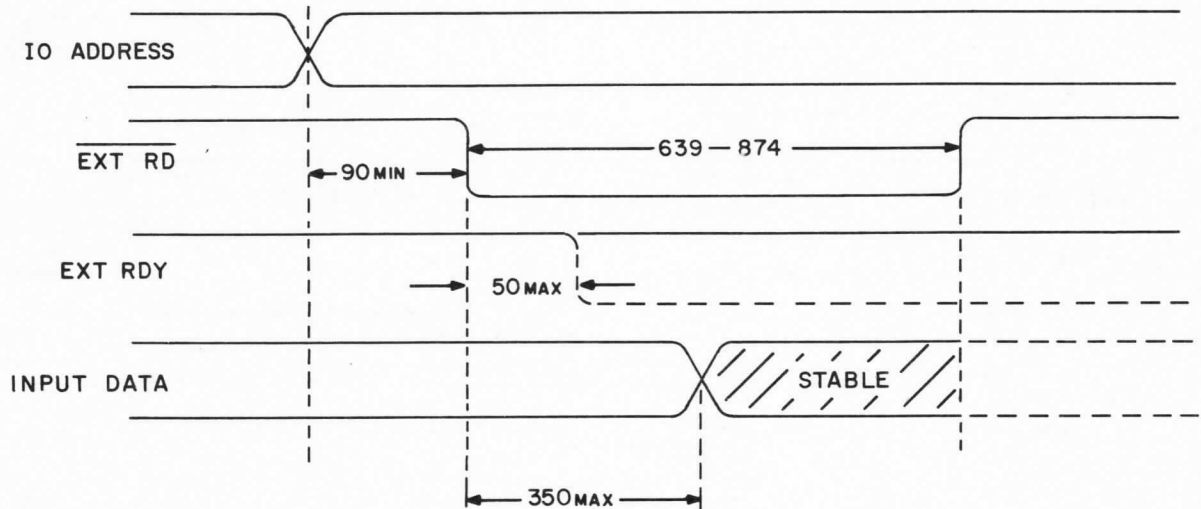

Figure 4.1. Input Timing
The timing diagram for the input operation is shown in Figure 4.1. All times are in nanoseconds (NS). No earlier than 90NS after placing the IO address on the address bus, the terminal issues the $\overline{\text{EXT RD}}$ signal. The selected device places the data on the bus within 350NS after receipt of the $\overline{\text{EXT RD}}$ signal. If the device cannot supply data within this time, it must take the EXT RDY line low within 50NS after receipt of the $\overline{\text{EXT RD}}$ signal or within 140NS after decoding the address.